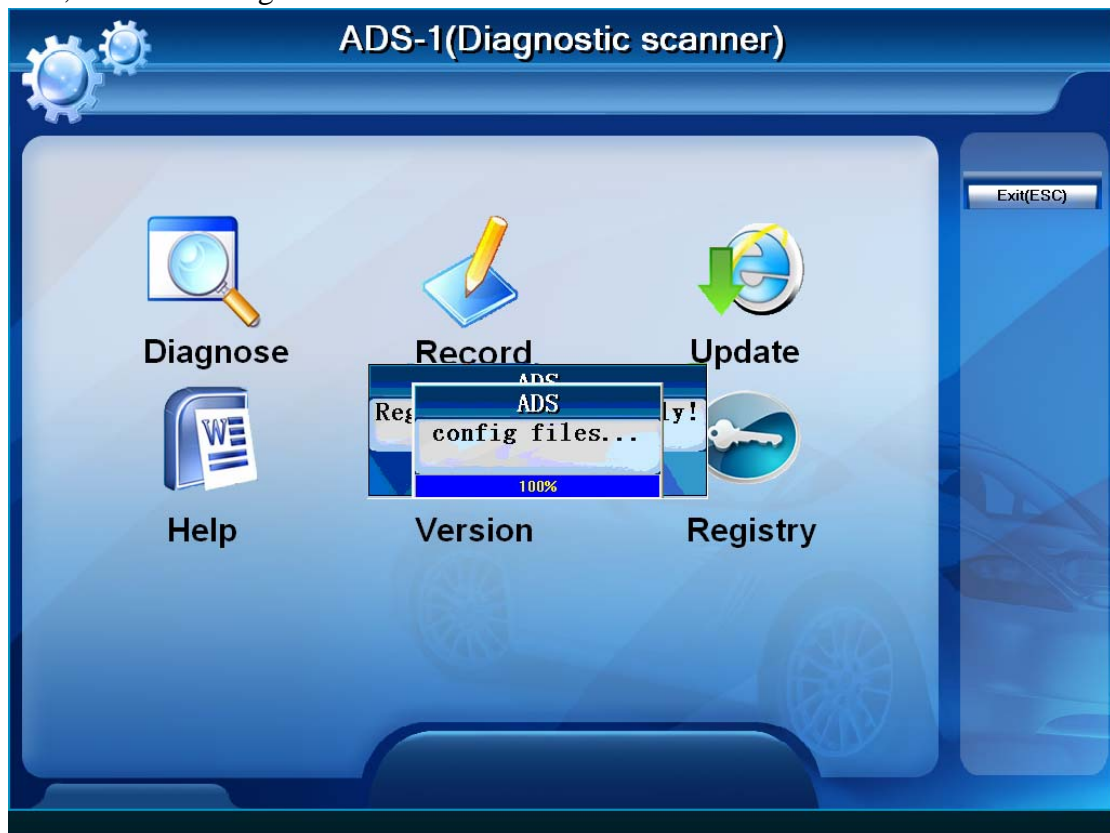

Figure-05
5. After the registration, click "OK", ADS-1 will go along the process of configuration files, as shown in figure-05.
6. After the files are configured , it comes into function interface, as shown in figure-05.